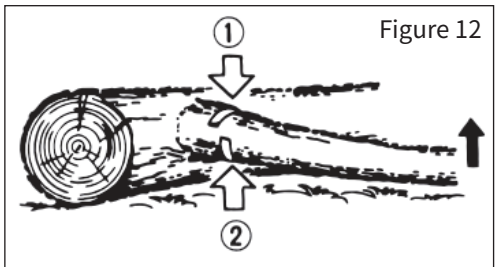

Figure 12
- For pruning a felled tree, first identify the direction in which the branch is bent. Make a shallow notch on the tension side, then complete the cut from the compression side to avoid pinching the guide bar (see Figure 12).